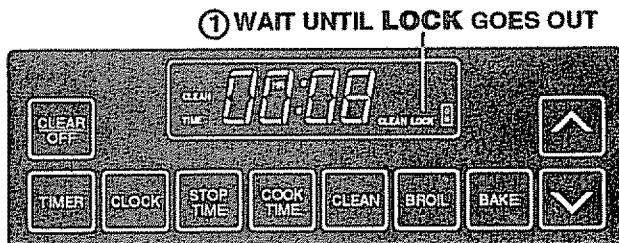

Fig. 3
1. Wait until the **LOCK** display goes out. The oven temperature must drop to a safe level before the door can be unlocked. See Fig. 3.